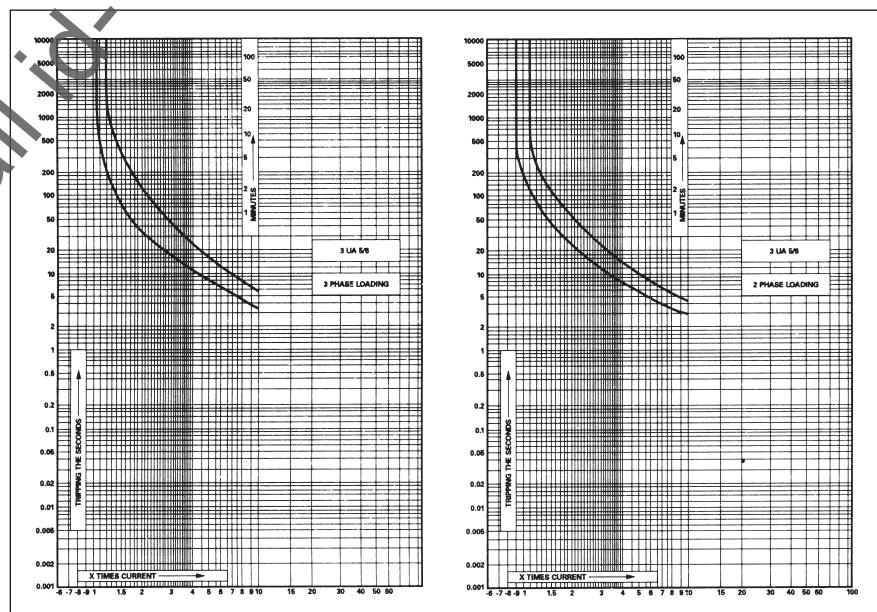

Fig. 6 : Operating characteristics of 3UW50 relays
- Overload relay characteristics shown in fig.6 can be used to estimate the average tripping time at different multiples of set current.
The given characteristics (fig. 6) are average values of all ranges and sizes of bimetal relays and are mainly intended to indicate the inverse time current characteristics of the same. The tripping times shown are for relays starting from the cold state. At operating temperatures (heated at rated current) these are reduced to about 25% of the value obtained from the characteristics.